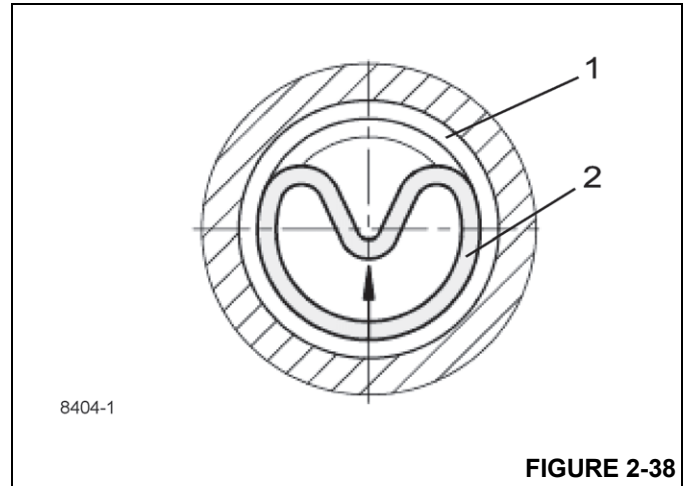

FIGURE 2-38
3. Place turcon ring remaining in formed shape covering the O-ring and press in direction of arrow into groove (Figure 2-38).